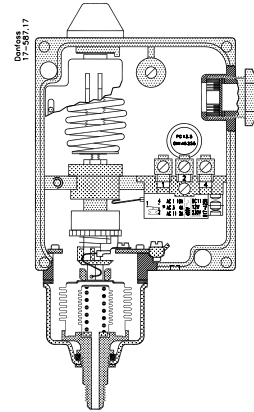

Fig. 3
**RT 6AEW, RT 6AEB, RT 6AES (see fig. 3 and fig. 9)**